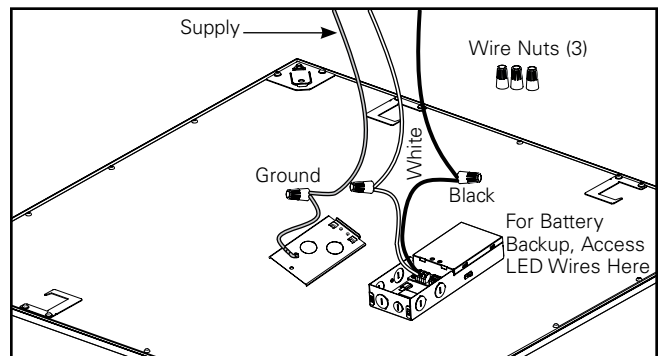

Figure 4.
7. Using the open knockout bring in the supply line. Using the three provided wire nuts to attach the ground wire to the ground supply wire, the black (line) wire to the black supply wire, and the white (neutral) wire to the white supply wire. (Figure 4.)
Note: This fixture is compatible with battery backup systems including the Surelites EBPLED7W and EBPLED14W. If using a battery backup system remove driver cover plate to access LED load wires and follow battery backup wiring instructions. (Figure 4.) Ensure driver cover plate is reinstalled after wiring.